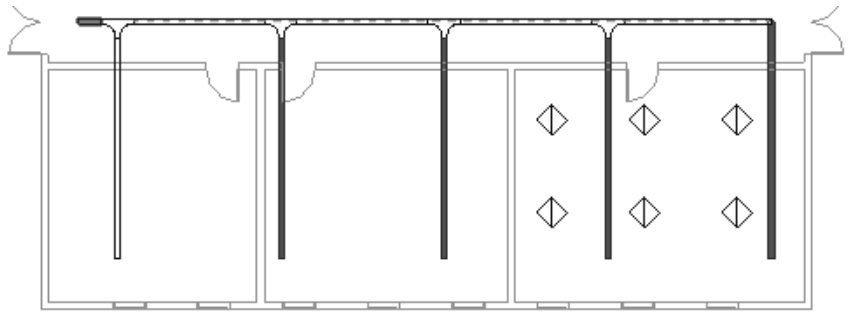

Figure 2–90
9. The cable trays are extended and fittings applied, as shown in Figure 2–90. The last cable tray does not clean up, use the  (Trim/Extend to Corner) command to finish it.